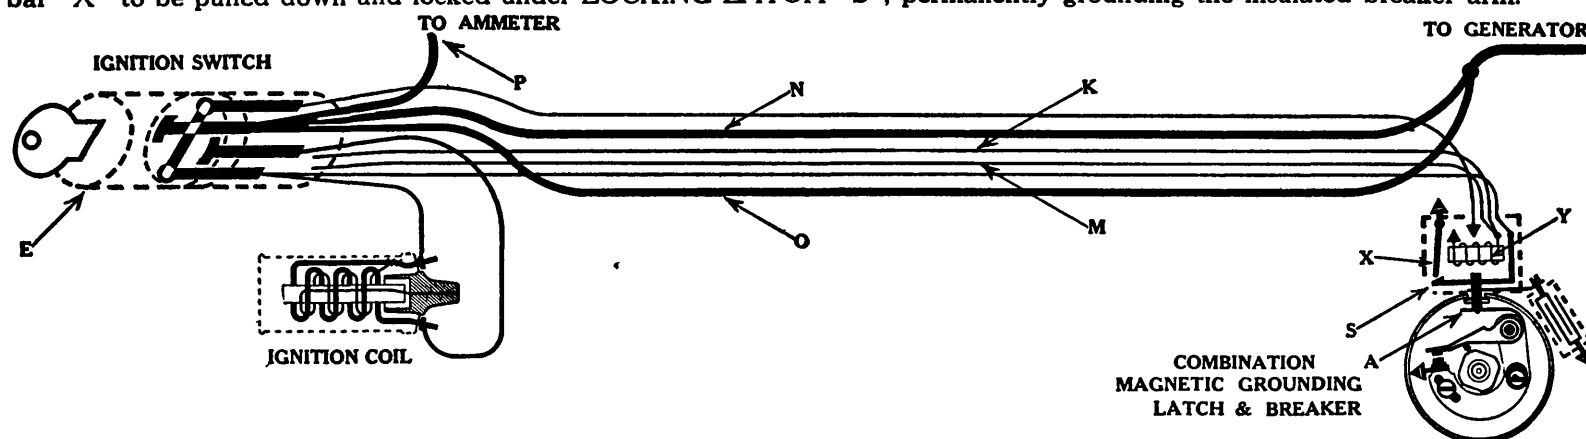

Fig. 10.
Wires "K" and "M" (Fig. 10) are "dead ended" in ignition switch. The other ends of these wires are connected to the MAGNETIC GROUNDING LATCH winding, and are only "alive" when cable between switch and distributor is CUT by knife or pliers, thus feeding current from "hot" wires "N" and "O" to MAGNETIC LATCH WINDING "Y", causing armature bar "X" to be pulled down and locked under LOCKING LATCH "S", permanently grounding the insulated breaker arm.
3. Place one TEST POINT on primary terminal on inside of distributor ("A", Fig. 10), and touch other TEST POINT to wire ("P", Fig. 10), taken from the ammeter. With switch unlocked ("ON" position), lamp should burn. With switch locked ("OFF" position), the lamp should not burn.
4. Place one point on primary terminal on inside of distributor ("A", Fig. 10), and other on any part of distributor housing ("E", Fig. 10). With switch locked ("OFF" position), the lamp should burn. With switch unlocked ("ON" position), the lamp should not burn. Should lamp burn in the "ON" position the MAGNETIC GROUNDING LATCH has either been tripped, or distributor condenser is shorted or grounded. It will be necessary to disconnect condenser from distributor to determine whether ground is in latch or condenser.
5. Turn switch to "ON" position, touch one TEST POINT to wire ("P", Fig. 10), taken from ammeter, touch TEST POINT successively to each of other two wires disconnected from ignition coil. If switch is "O. K." one of the wires will cause lamp to burn.